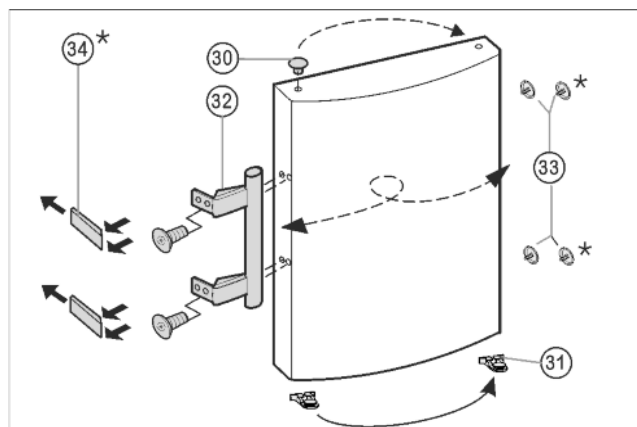

Fig. 8
- Lift the stopper *Fig. 8 (30)* out of the door bearing bush and transfer it.
- Detach door handle *Fig. 8 (32)*, stopper *Fig. 8 (33)* and pressure plates *Fig. 8 (34)* and transfer to the opposite side.